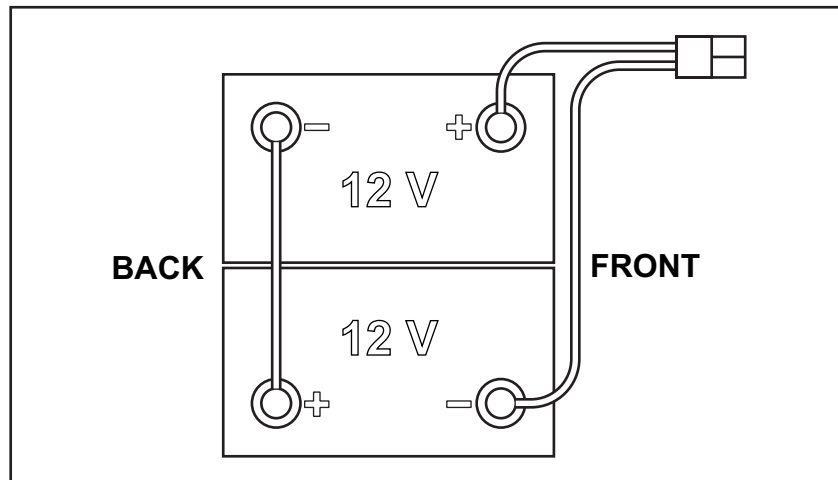

Figure 7
7. Route and install the battery cable as shown in the diagram (Figure 7), then carefully tighten the nut on each battery terminal.